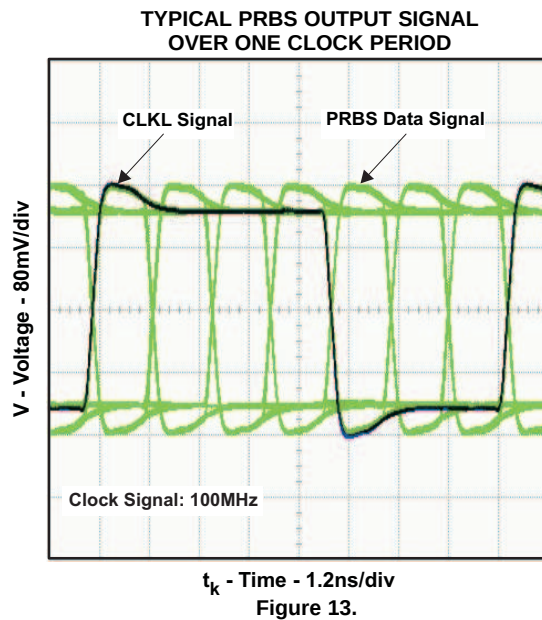

Figure 13.
- Changed Description text From: Alternative device option: The SN75LVDS83A is an alternative... To: Alternative device option: The SN75LVDS83B is an alternative... .. 2 - Changed Figure 13 - TYPICAL PRBS OUTPUT SIGNAL OVER ONE CLOCK PERIOD 13